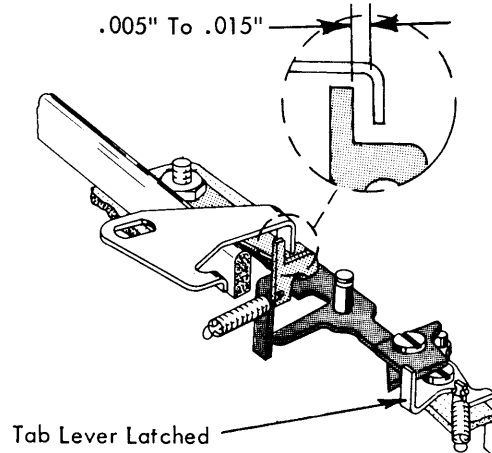

FIGURE 166. Tab Lever Overthrow Adjustment
5. Tab Lever Overthrow Stop - Adjust the stop forward or back so that $.005''$ to $.015''$ clearance exists between the lug of the tab lever trigger and the overthrow stop when the tab lever is latched to the rear (Fig. 166).